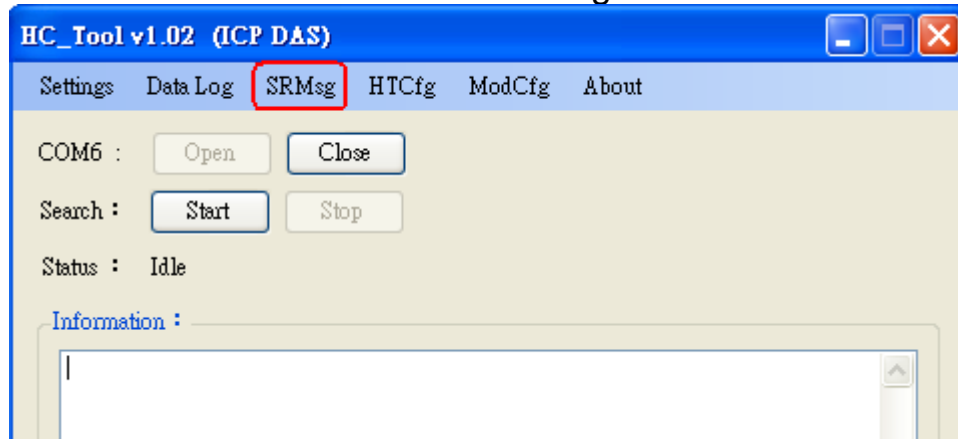

Figure 4-10: SRMsg Function
- (1) Click “**SRMsg**” item and it will open the HART command function window for HART communication like Figure 4-10.